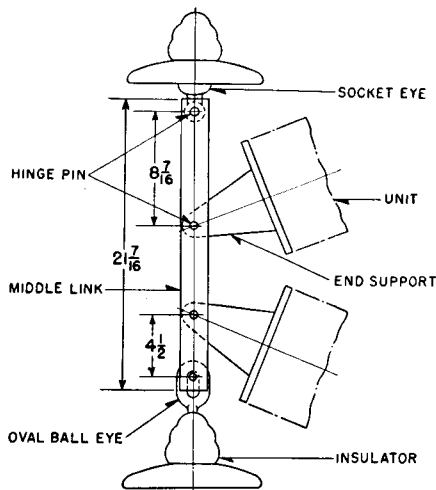

FIG. 4. MIDDLE LINK ASSEMBLY
end casting for mounting the support to the base of the unit. The smaller hardware provided is used for the top support (Fig. 4).
6. To the bottom of the first insulator string add two middle links by means of a socket eye. These are mounted as shown in Fig. 4.